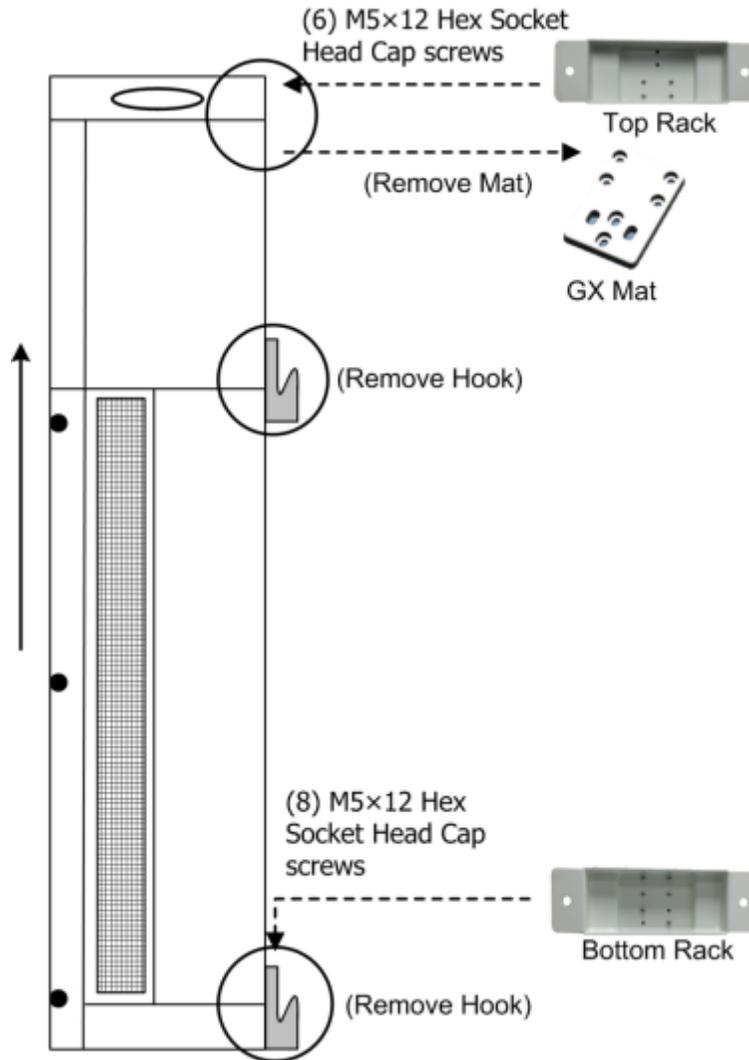

Figure 3-13. Pre-Mounting Procedure
2. Referring to Figure 3-13, disassemble the GX mat and mounting hooks from the GX by unscrewing the relevant bolts, save those screws for following step.